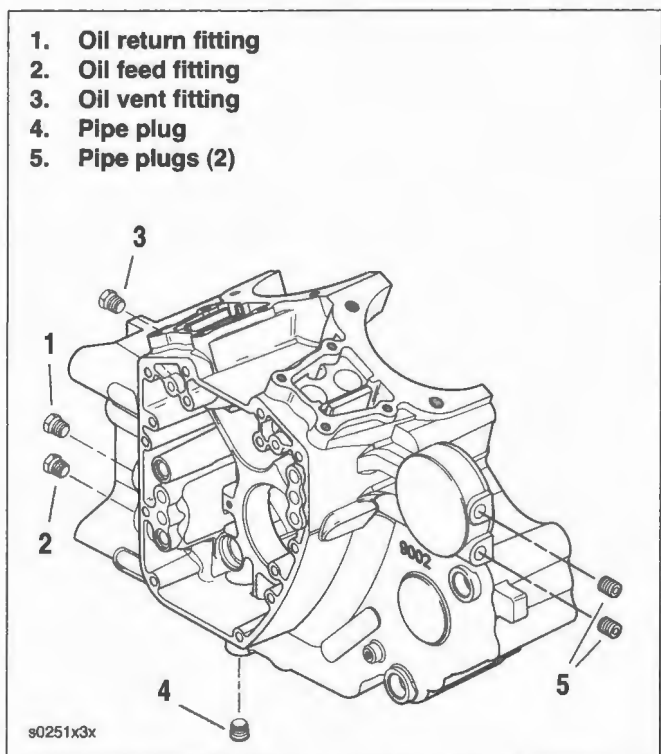

Figure 3-149. Oil Fittings and Pipe Plugs
1. See Figure 3-149. Remove parts.
3. See Figure 3-149. Install parts.